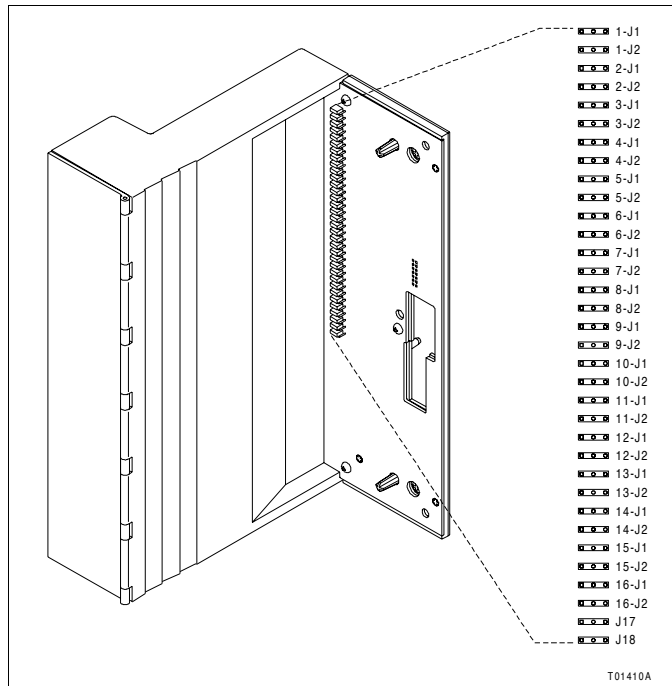

Figure PR8-1. User-Configurable Jumpers - Base
4. Set the analog input field power select jumpers J17 and J18 located on the AIN-220 base (Table PR8-2). These jumpers affect channels configured as IFP or LFP powered 4 to 20 milli-ampere inputs. Refer to Figure PR8-1 for jumper locations.
5. Set the input channel jumpers located on the AIN-220 base (Table PR8-3). Refer to Figure PR8-1 for jumper locations.